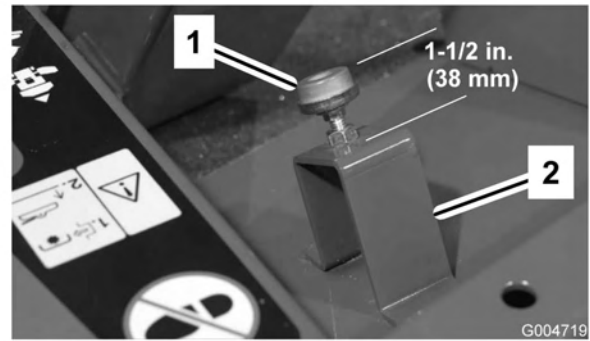

Figure 66
2. Check the traction pedal stop adjustment. The distance from the top of the stand to the top of the stop must be 1-1/2 inch (38 mm) (Figure 66). Loosen the nuts and adjust, as required.